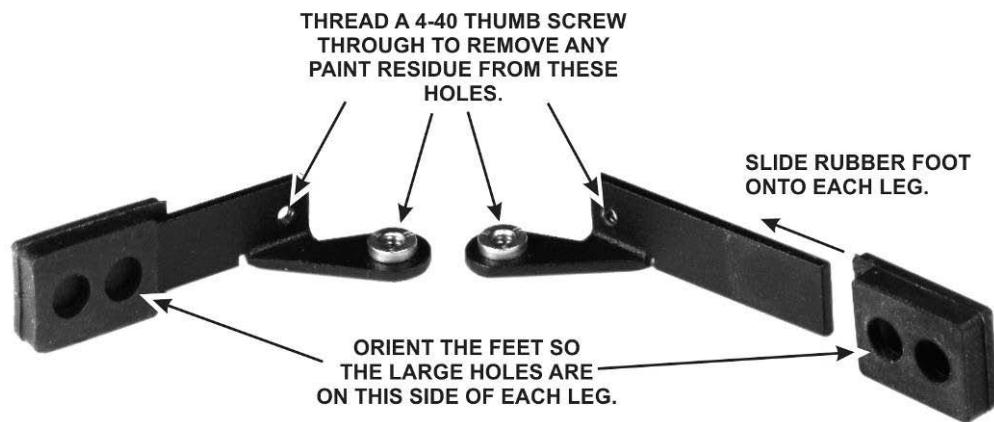

Figure 32. Preparing Tilt Legs for Installation – Part 1.
- Use the black thumb screw to clear any paint from the threaded holes in the tilt legs (see Figure 32).
- Slide the remaining two rubber feet onto the tilt legs as shown in Figure 32. The feet are held in place by friction. Be sure you work the feet all the way onto the legs as shown.